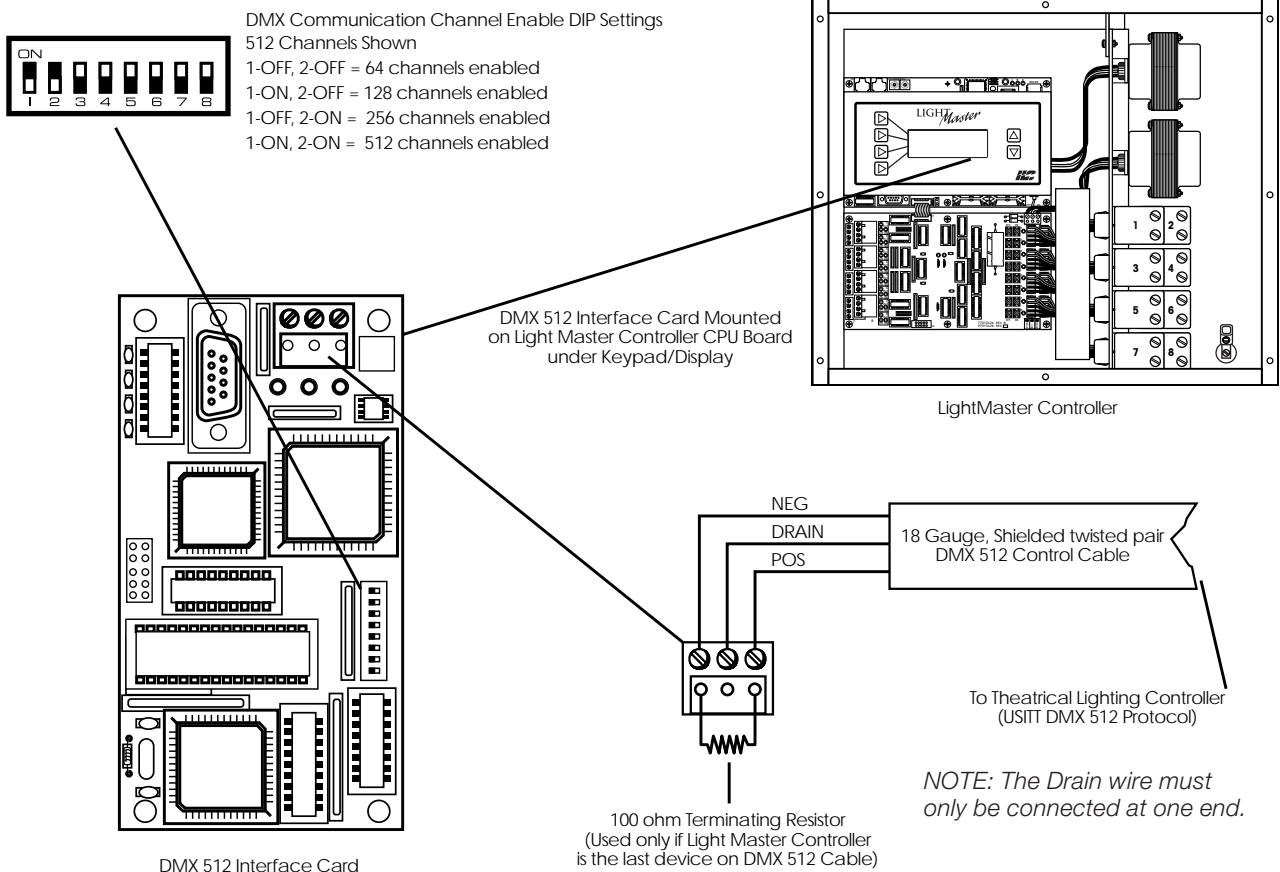

Figure D.1 – Panel Level DMX Interface Hardware Features
- The physical link is a standard USITT DMX 512 control cable (18 gauge, shielded twisted pair) that runs from the DMX output of the theatrical lighting controller to the LightMaster DMX communications port. The DMX 512 interface mounts on the LightMaster CPU board. (See Figure D-1.)